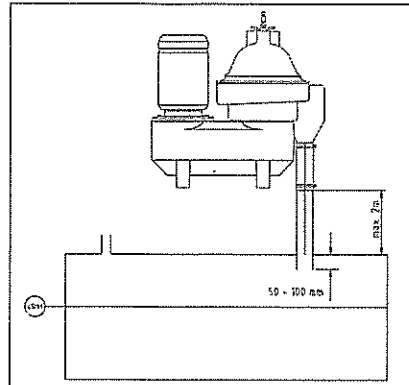

Fig. 67
- For dimension X, see section 6.2, Fig. 67.